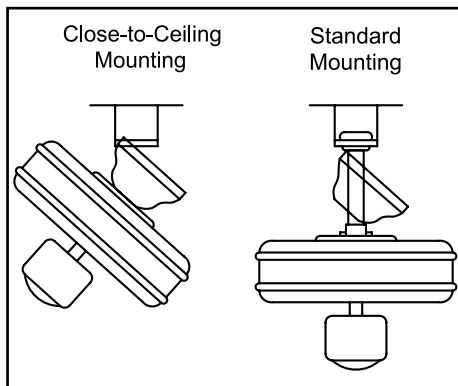

Figure 11
- Carefully lift the assembly up to the ceiling mounting plate and hang the fan on the hook provided by utilizing one of the holes at the outer rim of the ceiling canopy (Figure 11). If using standard mounting, seat the hanger ball in the mounting plate socket. Make sure the tab on the mounting plate socket is properly seated in the groove in the hanger ball (Figure 11).
THE HOOK AS SHOWN IN FIGURE 11 IS ONLY TO BALANCE THE FAN WHILE ATTACHING WIRING. FAILURE TO HANG AS SHOWN IN FIGURE 11 MAY RESULT IN THE HOOK BREAKING, CAUSING THE FAN TO FALL. THE HOOK MUST PASS FROM INSIDE TO OUTSIDE OF THE CANOPY.